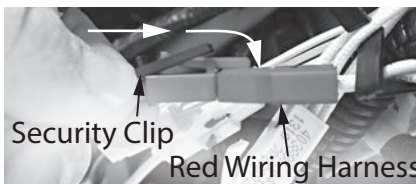

Figure 200 - Reconnecting the wiring harness
- 15** Secure the condensate trap with the three (3) screws removed in **Step 12**.
**NOTICE:** Carefully insert the black safety clip into the red wiring harness. See Figure 200.